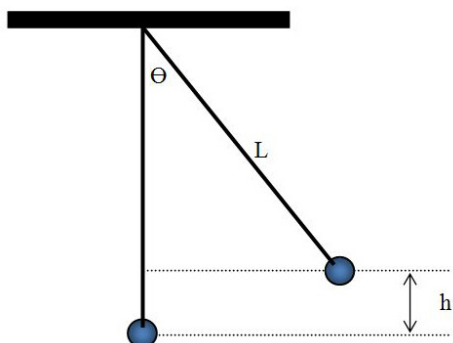
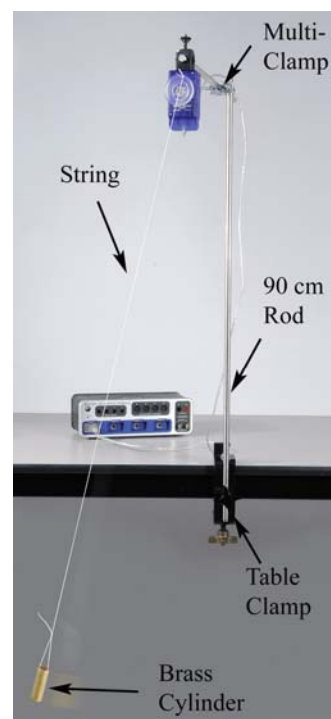

Figure 2: Calculating height, h .
Figure 1: Simple Pendulum
When a pendulum swings, potential energy is transformed into kinetic energy, and then back again to potential energy as the speed and elevation of the pendulum vary during the motion. In this experiment (see Figure 1), the motion of the pendulum is measured by the Rotary Motion Sensor. The height, h , of the pendulum "bob" is calculated using the angle, θ , and the length of the pendulum, L , as shown in Figure 2. Using trig, it can be shown that
1. Attach the table clamp and 90 cm rod to the table as shown in Figure 1. Use the multi-clamp and 45 cm rod to suspend the Motion Sensor out over the floor.